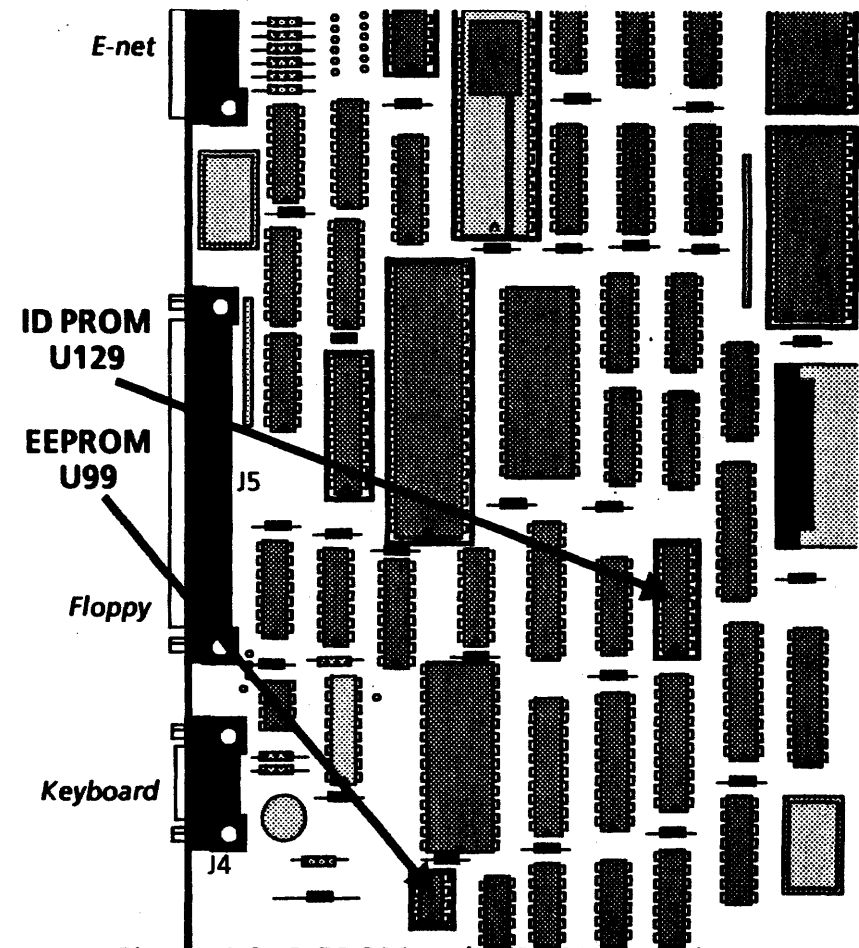

Figure 4-9 ID PROM and EEPROM Location
6. Locate the ID PROM and the EEPROM on the old IOP PWBA (Figure 4-9) and remove them for use with the new IOP PWBA.